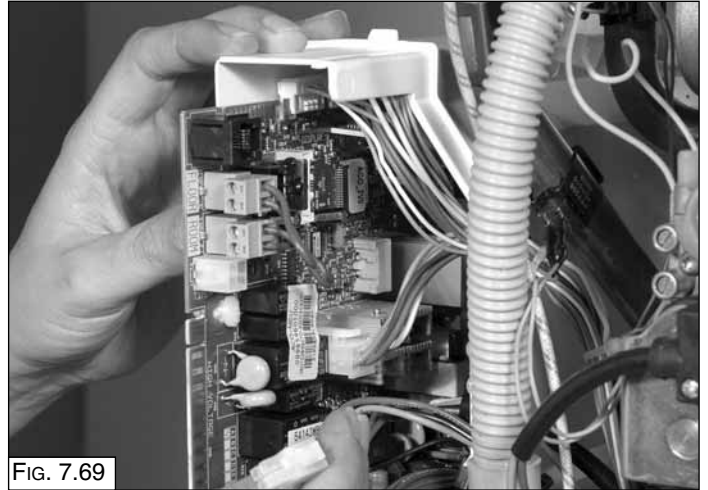

FIG. 7.69
4. Pull forward the main PCB (Fig. 7.69 & 7.70);